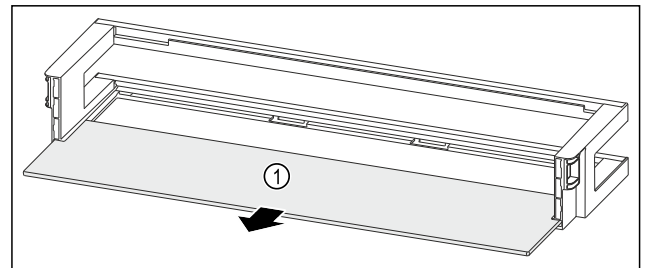

Fig. 50 Door rack with shelf
- ▶ Remove the shelf Fig. 50 (1).